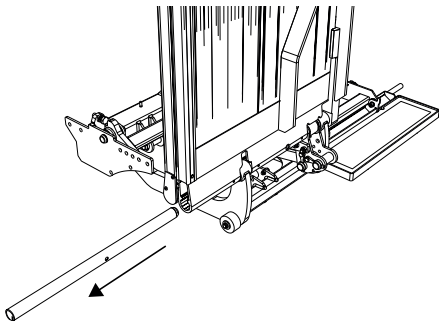

Figure 12. Push the shaft out off the platform
2. Push the shaft out off the platform, see Figure 12.